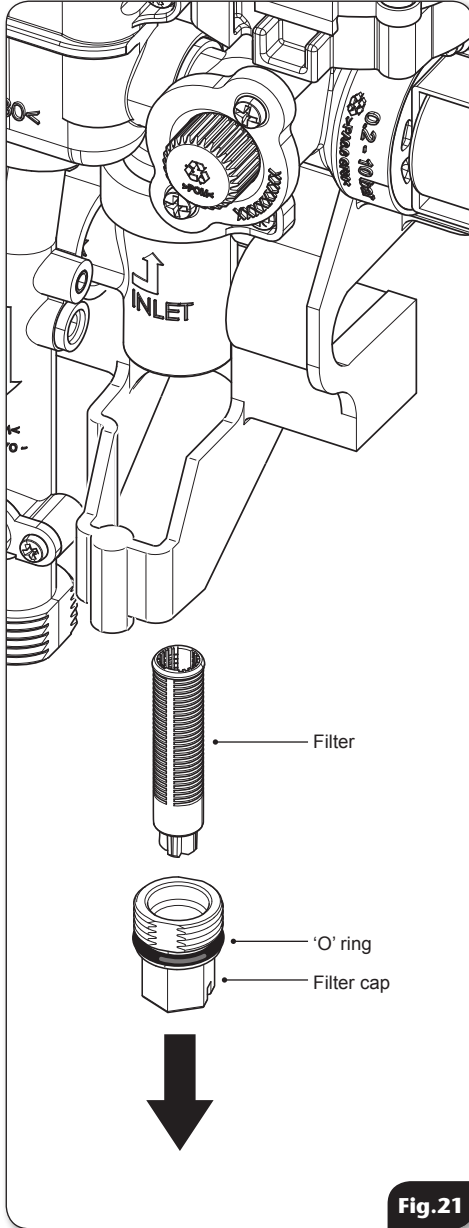

Fig.21
Low pressure indication (fig.21)
- The inlet filter is situated inside the water inlet fitting (**fig.21**).